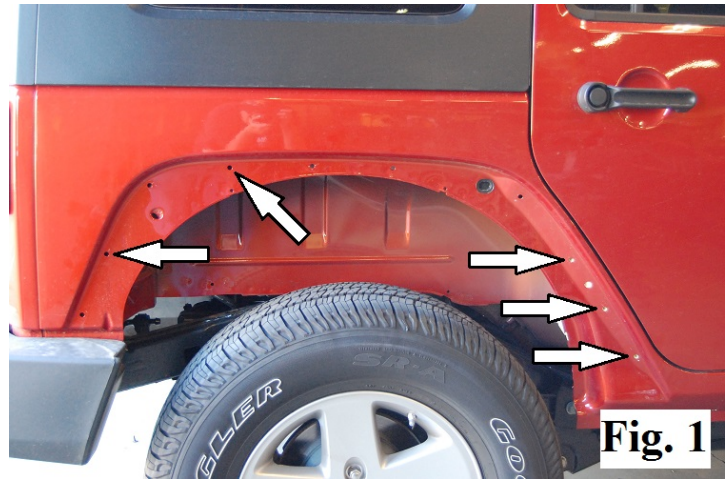

Fig. 1
1. Begin the rear flare installation by drilling out the holes for the rubber expansion nuts. These expansion nuts measure 5/8" (.625") in diameter, however they will require a slightly smaller hole to install them into so they are a snug fit and will not spin when you thread and tighten the bolts into them. Utilize progressively larger drill bits or a 'stepped' drill bit to meet the required size (approx. 9/16"). The holes indicated in Fig. 1 are the only ones necessary to enlarge.